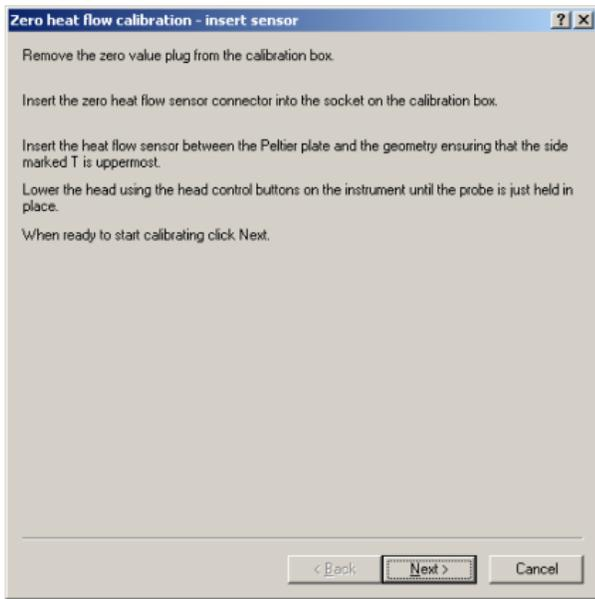
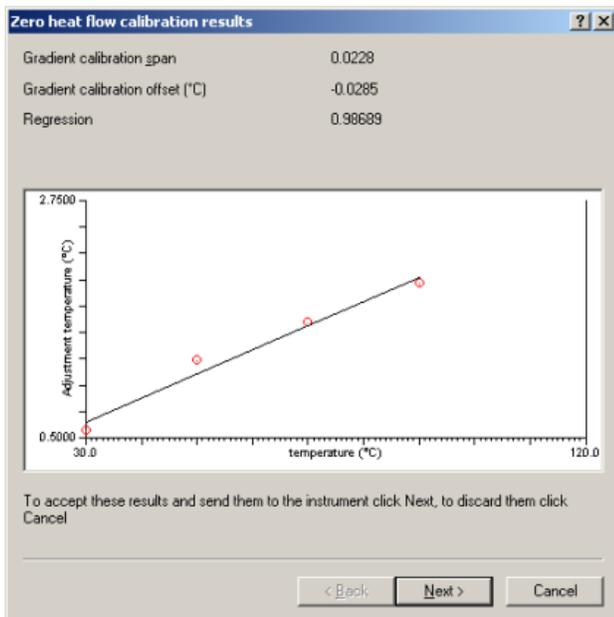

Figure 7.19
Figure 7.22
7. Click **Next** to begin calibrating as instructed (see Figure 7.19, above left). When the calibration is complete the results will be displayed as shown in Figure 7.22 (to the left).